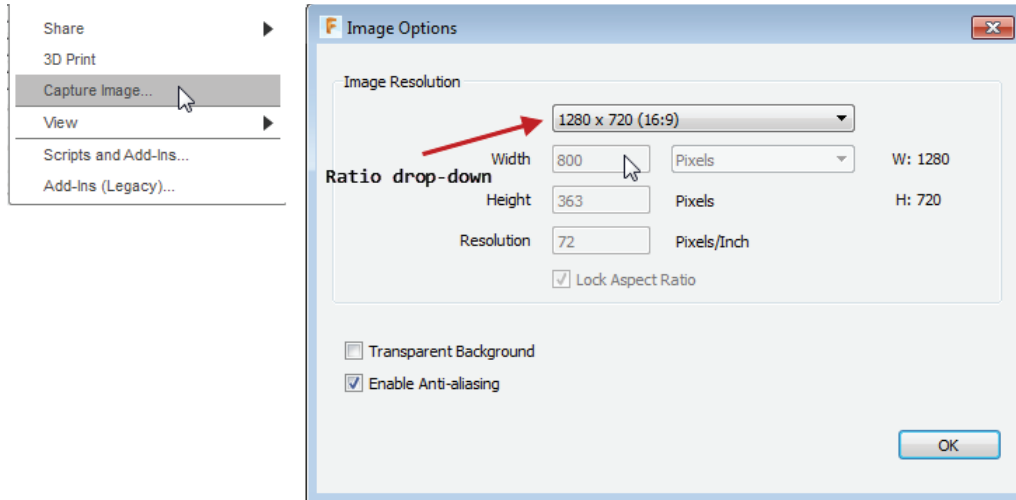

Figure-59. Capture Image tool
- Click on the **Capture Image** tool from **File** menu; refer to Figure-59. The **Image Options** dialog box will be displayed.